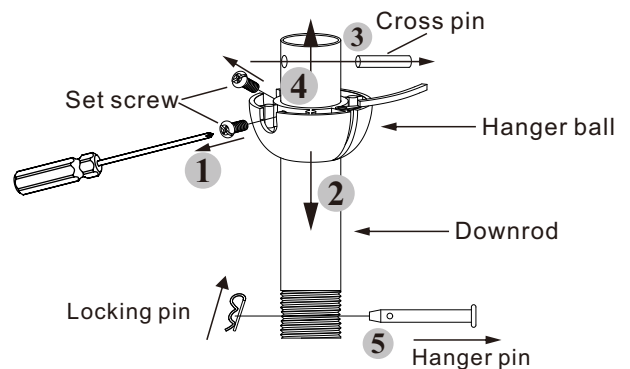

Figure 10
b. Remove the hanger pin, locking pin from the downrod assembly, and loosen the set screws from the the coupling (Fig. 10)